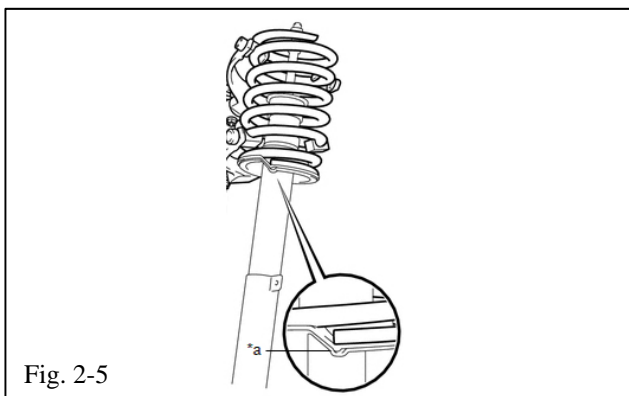

Fig. 2-5
- (i) Confirm that the end of the spring sits in the stepped portion (\*a) of the lower spring seat (Fig. 2-5).